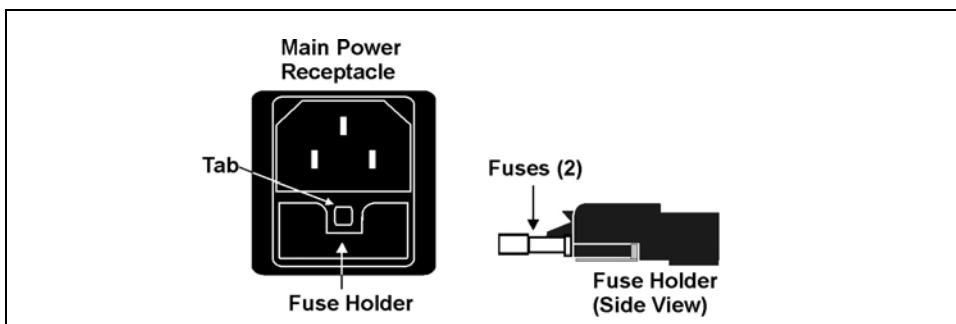

Figure 5-28. Main Power Fuse Holder
- The fuse holder is part of the main power receptacle (see Figure 5-28) on the ICS-1500 rear panel. To remove the fuse holder, squeeze the tab on the top of the holder to release it and pull the holder straight out of its compartment.